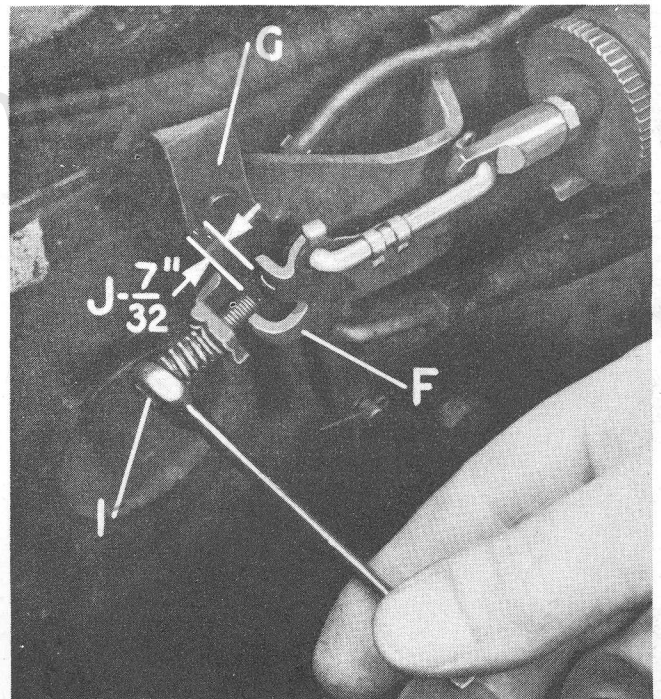
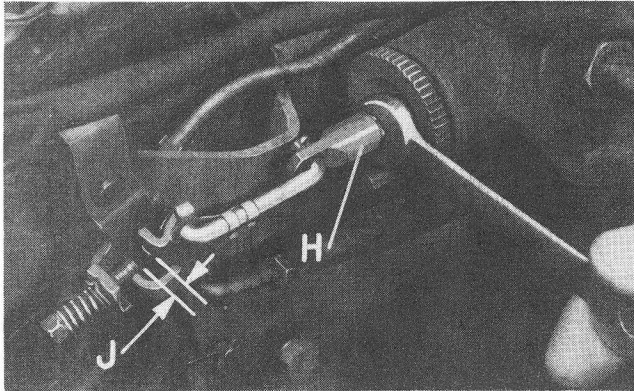

Figure 9—With Stop (F) against Lever (G) Obtain $\frac{7}{32}$ " Gap (J) by Adjusting Engine Speed Screw (I)
Figure 10—Adjust Spool Rod until Power Cylinder Starts To Move as Clearance (J) Is Taken Up
Holding control valve lever stop (F, Fig. 9) against the lever (G), adjust the engine speed adjusting screw (I) to provide a gap of 7/32 inch at point (J).
a. With the engine running and gear shift in neutral, depress the accelerator pedal until the clearance (at J, Fig. 9) is just taken up. The clutch power cylinder rod or cable should just start to move as the clearance is taken up.
b. If the power cylinder cable starts to move before this clearance is taken up, loosen the lock nut on the spool valve rod and screw the spool rod out of the clevis (H, Fig. 10).
at an engine speed of approximately 900 rpm. To increase engine speed, decrease the gap (at point J, Fig. 9) by turning the adjusting screw (I, Fig. 9) in, 1/4 turn at a time, until the speed is correct. If the engine speed is too high, decrease by turning the adjusting screw out, 1/4 turn at a time, until proper engine speed is obtained.
e. Recheck the engine speed adjusting screw gap (J, Fig. 9) and, if less than 3/16 inch or more than 1/4 inch, the spool valve must be re-adjusted. If the gap is above limit, screw the spool rod into the clevis 1/2 turn (H, Fig. 10). Readjust the engine speed screw gap (J, Fig. 9) to the original gap setting of 7/32 inch. Recheck the adjustment with the car in low gear as previously described. If the car does not creep at the prescribed engine speed, repeat the above adjustments.